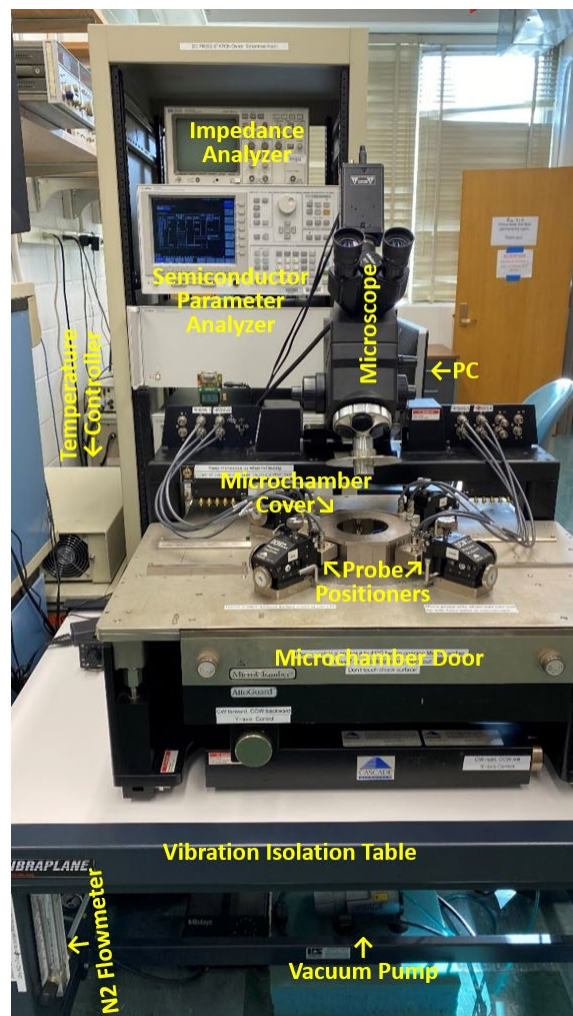
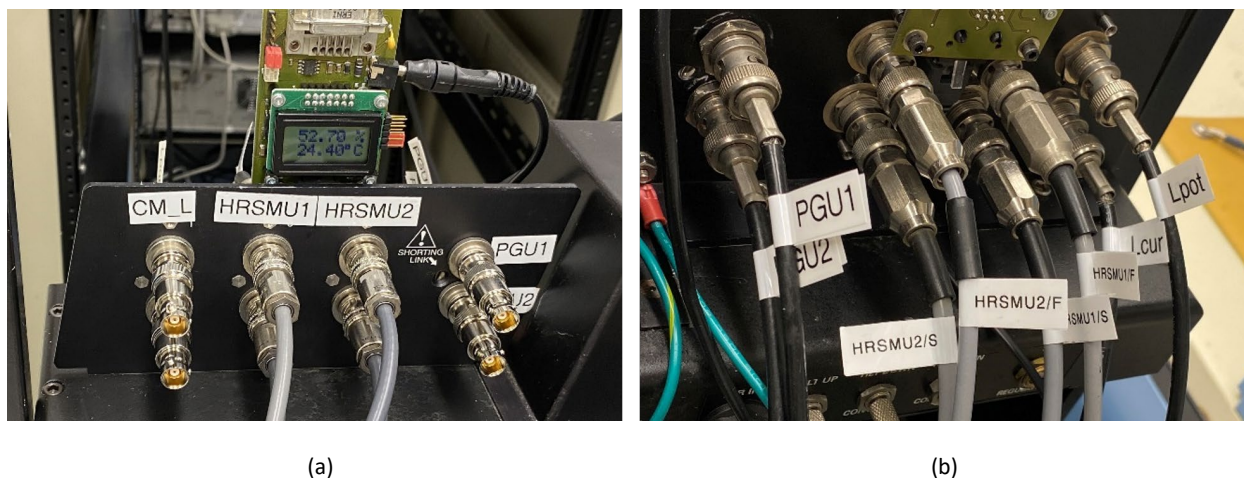
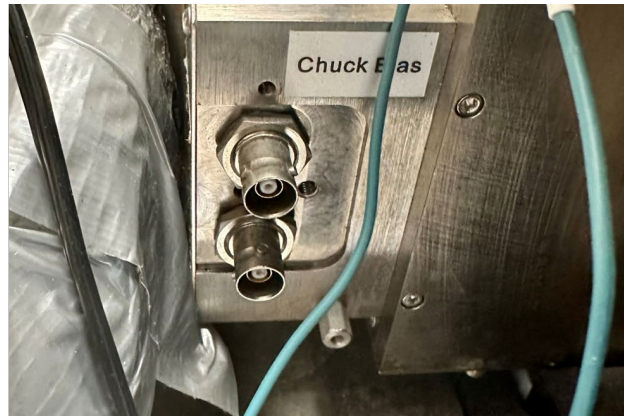
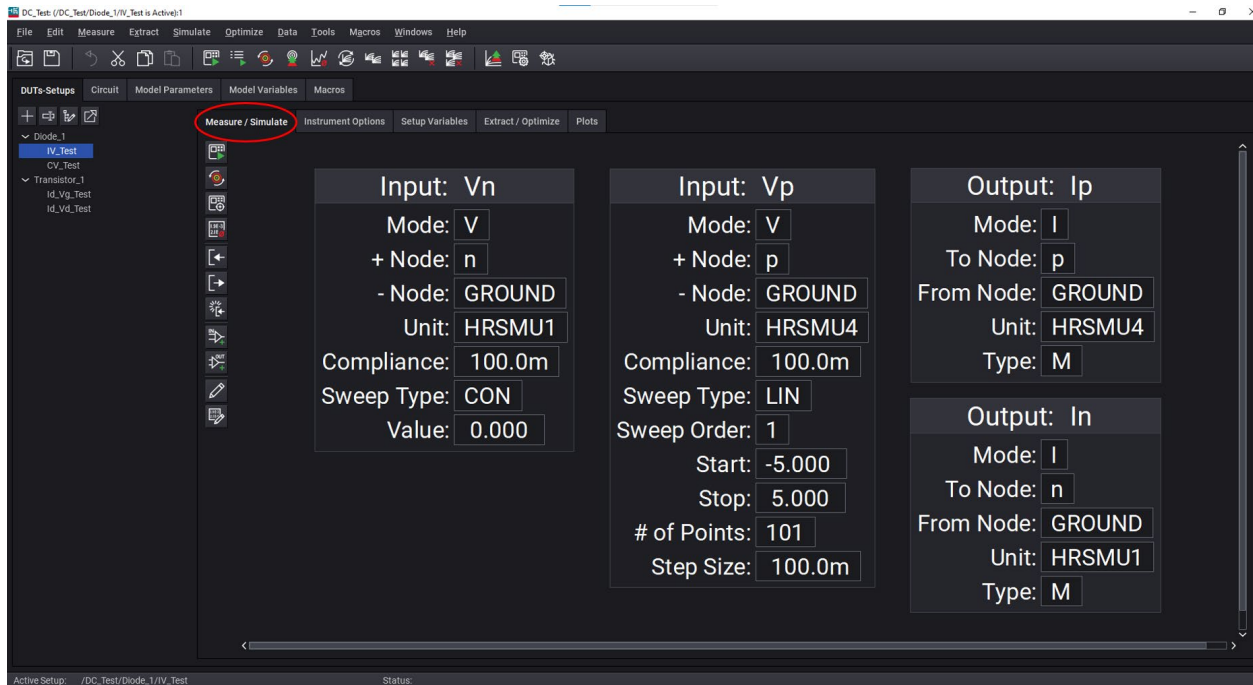

Fig. 1.1. DC probe station.
Fig. 1.4. Normal configuration of the (a) front and (b) back of the left connector panel.
Fig. 1.5. Normal configuration of the (a) front and (b) back of the right connector panel.
Fig. 3.2. Template for measuring the diode I-V characteristic.
Fig. 1.1 shows that this tool is configured around a Cascade Summit 12K probe station, including four Kelvin probes each mounted on a Cascade 208 or 210 probe positioner, an Agilent 4156C precision semiconductor parameter analyzer, an Agilent 4294A precision impedance analyzer, a Temptronic TPO3000 200-mm ThermoChuck system, a Kinetic Systems 1201 vibration-isolation table, and a personal computer (PC) running Keysight IC-CAP on Windows 10. For users interested in exploring the full capacity of the tool, ask the HFTL manager for manuals provided by manufacturers of individual instruments. **If you have any question or doubt about the following instructions, discuss it with the HFTL manager before you unilaterally bend the rules!**
1.19 The hardware configuration of the tool includes cables, probe positioners, and other pieces of hardware not listed at the beginning of this manual. Usually, the four probes there, each capable of forcing and sensing a current or voltage, are more than enough. Eight triaxial cables connect the four probes to the two connector panels on the left and right sides of the probe station as shown in Fig. 1.4 and Fig. 1.5, respectively. Between the two cables on each probe, the cable on the dotted (red or white) side connects to the high (force) side of the connector panel; the other cable connects to the low (sense) side of the connector panel. Normally, as shown in Fig. 1.1, the southwest probe is connected to "HRSMU1," the northwest probe is connected to "HRSMU2," the northeast probe is connected to "HRSMU3," and the southeast probe is connected to "HRSMU4."
- 2.2 Confirm the hardware configuration according to Fig. 1.4 and Fig. 1.5.
- 3.4 Make sure the frontside of the connector panels are connected to the 4156C instead of the 4294A as shown in Fig. 1.4 and Fig. 1.5.
- 3.6 For measuring a p-n diode, it is recommended to contact its n- and p-terminals with the southwest and southeast probes, respectively, as in Step 1.20. On the "DC_Test" home screen and under "Diode_1," select "IV_Test." The top menu selection of "Measure/Simulate" should automatically be displayed as shown in Fig. 3.2. For example, it shows that the input of HRSMU1 is set to 0 V. The input of HPSMU4 is swept from -5 V to 5 V in 0.1-V steps. The output current is measured also by HPSMU4. "Mode" defines the input/output in current or voltage. You can customize these parameters, but leave "Type" in "M." When the input is in voltage, set "Compliance" to a low limit such as 100 mA to avoid burning out the DUT, or, worse, the test setup!
- 3.8 If you need more inputs/outputs, "copy" an input/output panel in Figs. 3.2–3.4, "paste," then double-click it to customize. As listed in the beginning of Sec. 3, the available units are HRSMU1, HRSMU2, HRSMU3, HRSMU4, HPSMU5, PGU1, and PGU2. Normally, HRSMU1, HRSMU2, HRSMU3, and HRSMU4 are preferred due to their high resolution. Their voltage capacity (± 100 V max) should be sufficient in most cases, except that their currents are limited to 0.1 A. HPSMU5 is used only for higher power measurements and PGU1 and PGU2 are used only for pulsed measurements. Nevertheless, with four probes, you are limited to a maximum of four inputs and four outputs. You can switch between HRSMU, HPSMU, and PGU on the frontside of the left and right connector panels. **Before you leave the probe station, always leave the connector panels in the same configuration as in Fig. 1.4 and Fig. 1.5!**
- 3.9 Start the measurement by clicking on  on the left menu of Figs. 3.2–3.4, the cursor on the screen starts spinning and the message "Measure in Progress" appears on the bottom of the window.